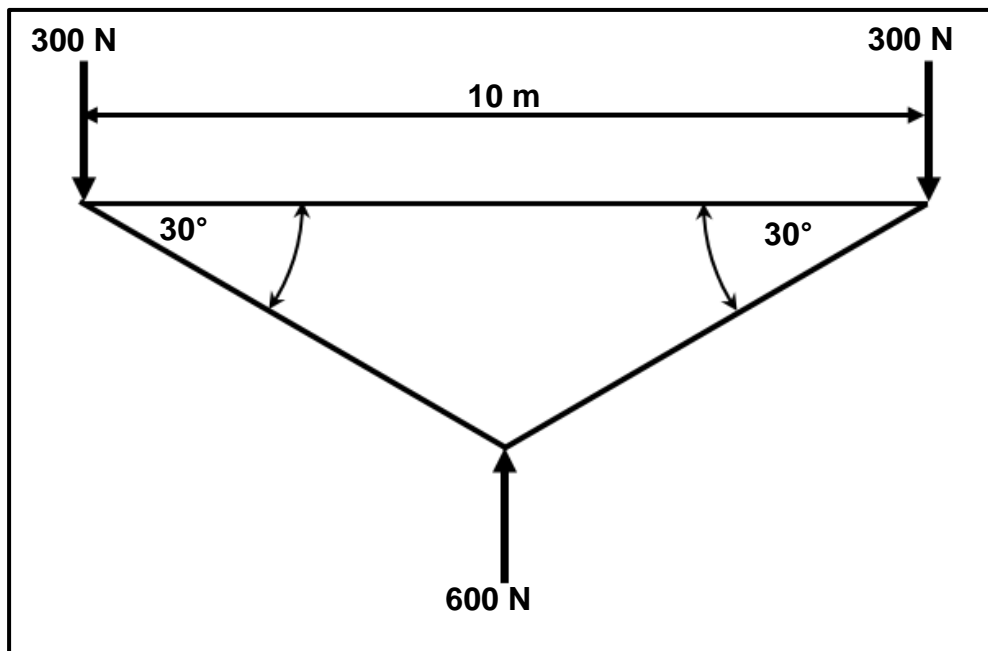

FIGURE 7.1
7.1 FIGURE 7.1 below is a diagram of a steel framework. Answer the questions that follow. (Use Bow's notation.)